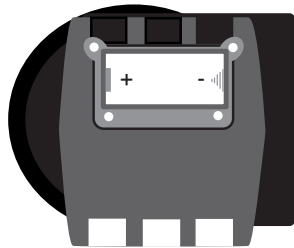

Fig. 75 - O-ring Installation
- To replace the battery hatch o-ring, lightly lubricate it with silicon grease and place it on the beveled outer edge of the battery compartment (Fig. 75). Ensure that it is evenly seated.